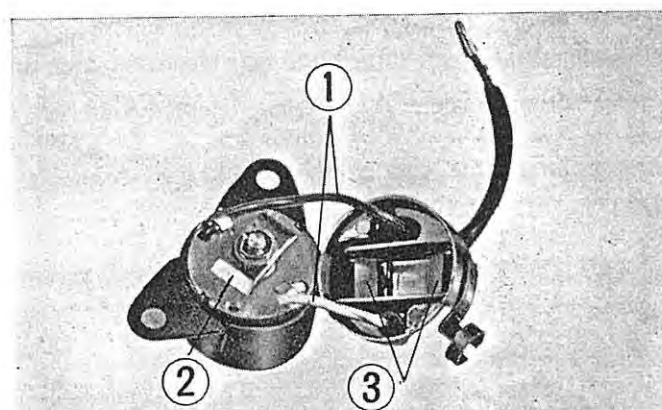

Fig. 11-47. Disassembly of magnetic switch (cap is opened)
- c. Operational current on the primary side less than 12 V, 3.5 A. (Fig. 11-47, 11-48)